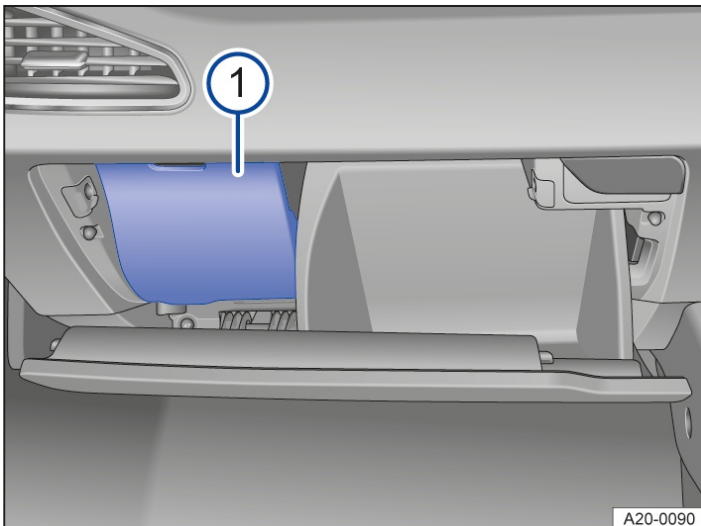

Fig. 2 Right-hand drive vehicle: fuse box cover in the dash panel on the front passenger side.
2. Pull off cover from top→ *Fig. 2* ①.